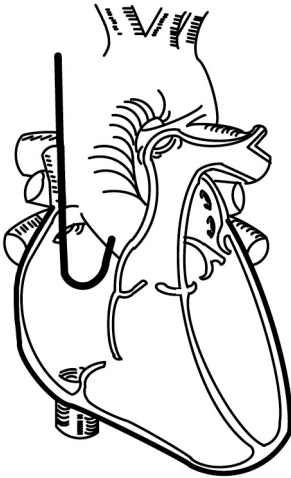

Figure 6. Atrial placement
3. To position the preformed atrial J lead, hold the stylet stationary and maintain fluoroscopic observation while advancing the lead tip until the tip enters and becomes lodged in the atrial appendage (Figure 6 Atrial placement on page 15).